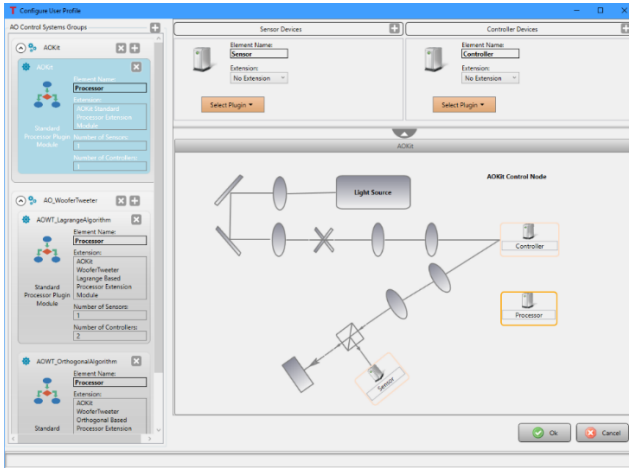

Figure 4 Configure User Profile Window
5. From the User Profiles window, click **Configure** button within the highlighted Default user profile to select the devices for the AO control systems. This will open the Configure User Profile window. See Figure 4.